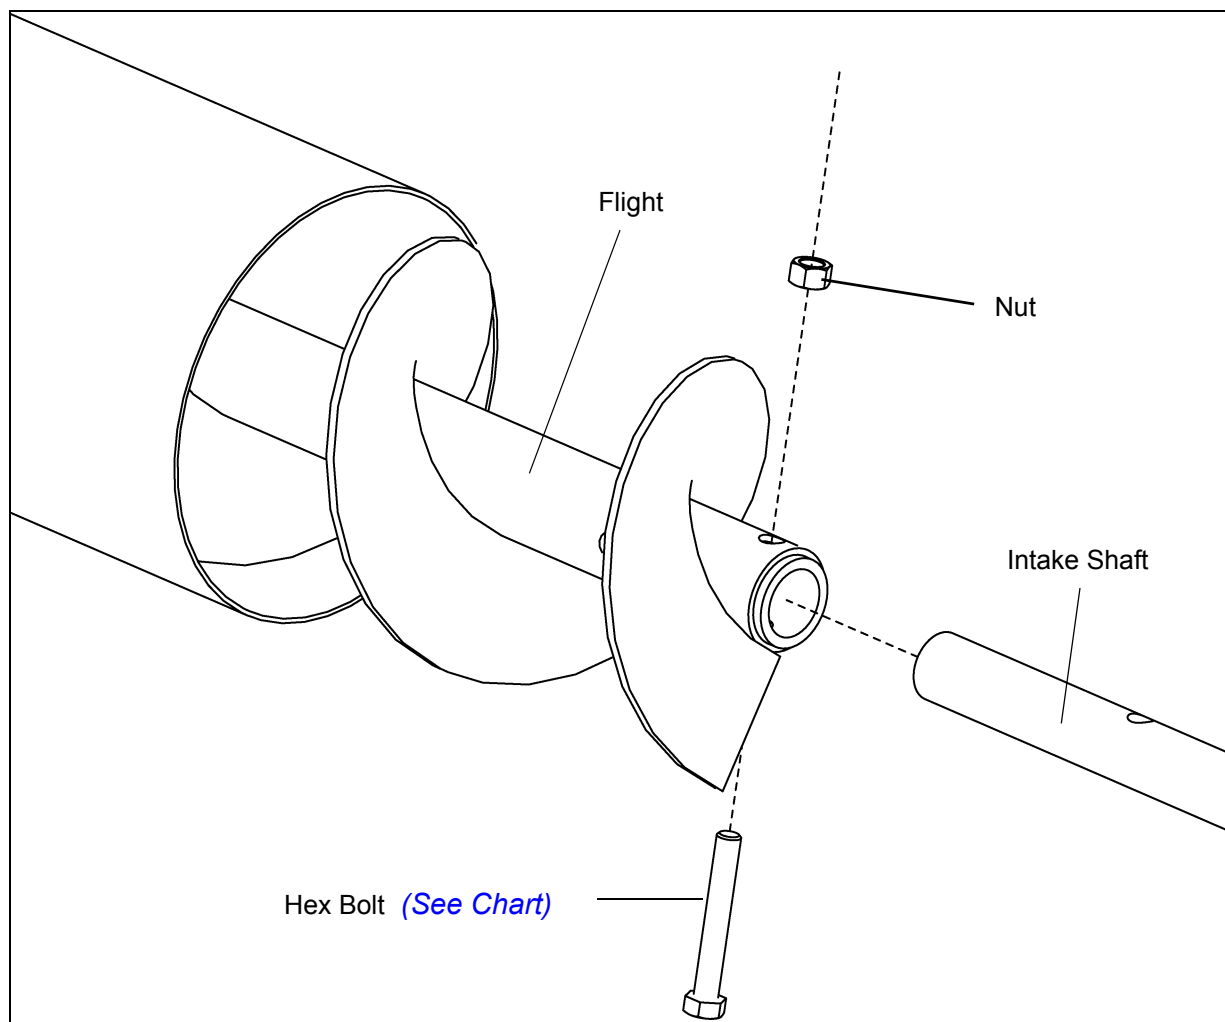

Figure 4E
5. Insert the intake shaft into the flight and connect with proper grade 8 bolt and stover nut (See Chart) and (Figure 4E).